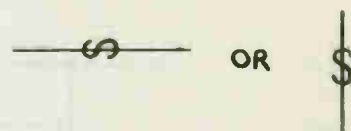

Fig. 4A Centrifugal switch
7. Fig. 4a shows the symbol we will use for the centrifugal switch. A centrifugal switch might be connected at either end or in the middle of the auxiliary winding. Fig. 4b shows the symbol we will use for a thermal device. Usually, thermal devices are connected in series with the supply.